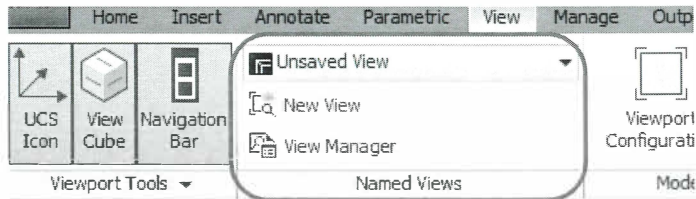

Figure 8-1
- You can create named views by either using the **New View** command or the View Manager. These can be accessed in the **View** tab>Named Views panel, as shown in Figure 8-1.